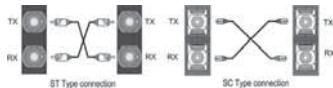

Figure-5
- 2. Connecting the Fiber Port:** Cross-connect the transmit channel at each end to the receive channel at the opposite end as illustrated in the Figure-5.